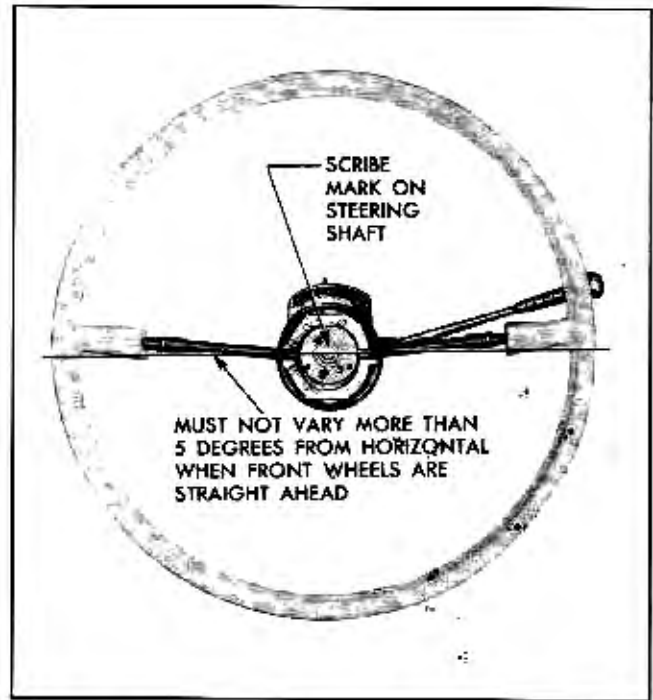

Fig. 9-7 Locating Steering Wheel Position
3. Reassemble steering connecting rod to pitman arm. Set spokes of steering wheel in straight ahead position (mark on steering shaft up, Fig. 9-7). If road wheels are not straight ahead, adjust steering tie rods as outlined on page 3-7.
5. To replace, reverse above procedure. Be sure wheel is in straight ahead position (Fig. 9-7). Tighten steering wheel nut to 25-30 lb. ft. torque.
14. Install steering wheel. See that wheel spokes are in straight ahead position when steering gear is on high point of cam with mark on end of steering shaft up (Fig. 9-7) and wheels are in straight ahead position.